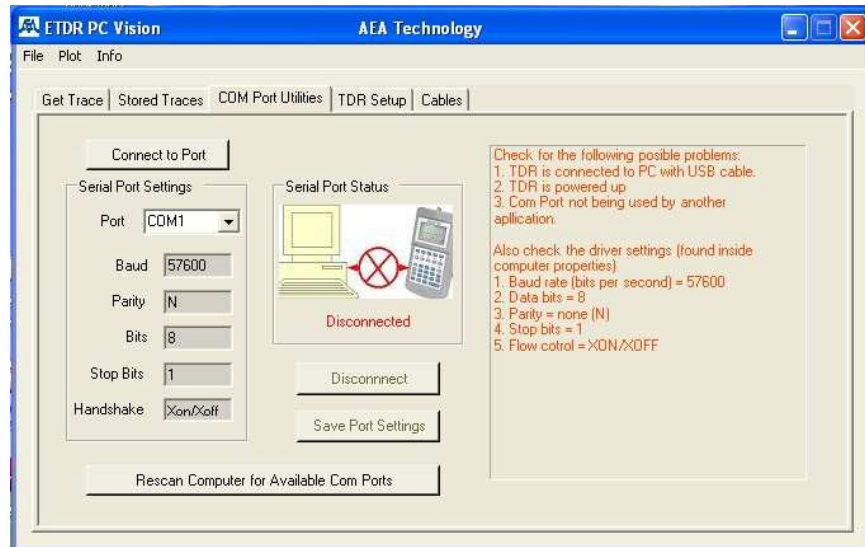

Figure 5-3
**Connection Error** – If ETDR PC Vision can not locate the TDR or if the TDR can not establish a COM Port connection link, go to the COM Port Utilities tab as shown in figure 5-3 which offer a list of suggested common issues to correct the connection.